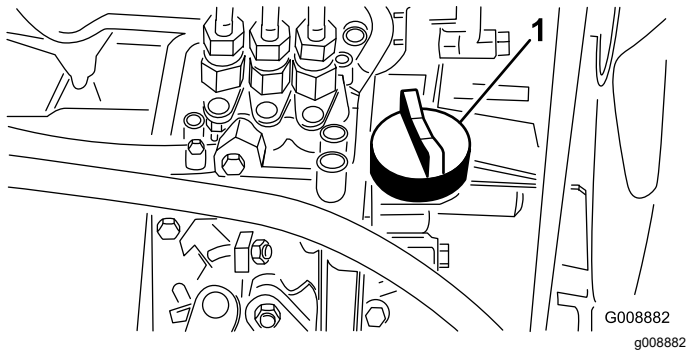

**Figure 52**
2. Remove the dipstick (Figure 52) and wipe it with a clean rag.